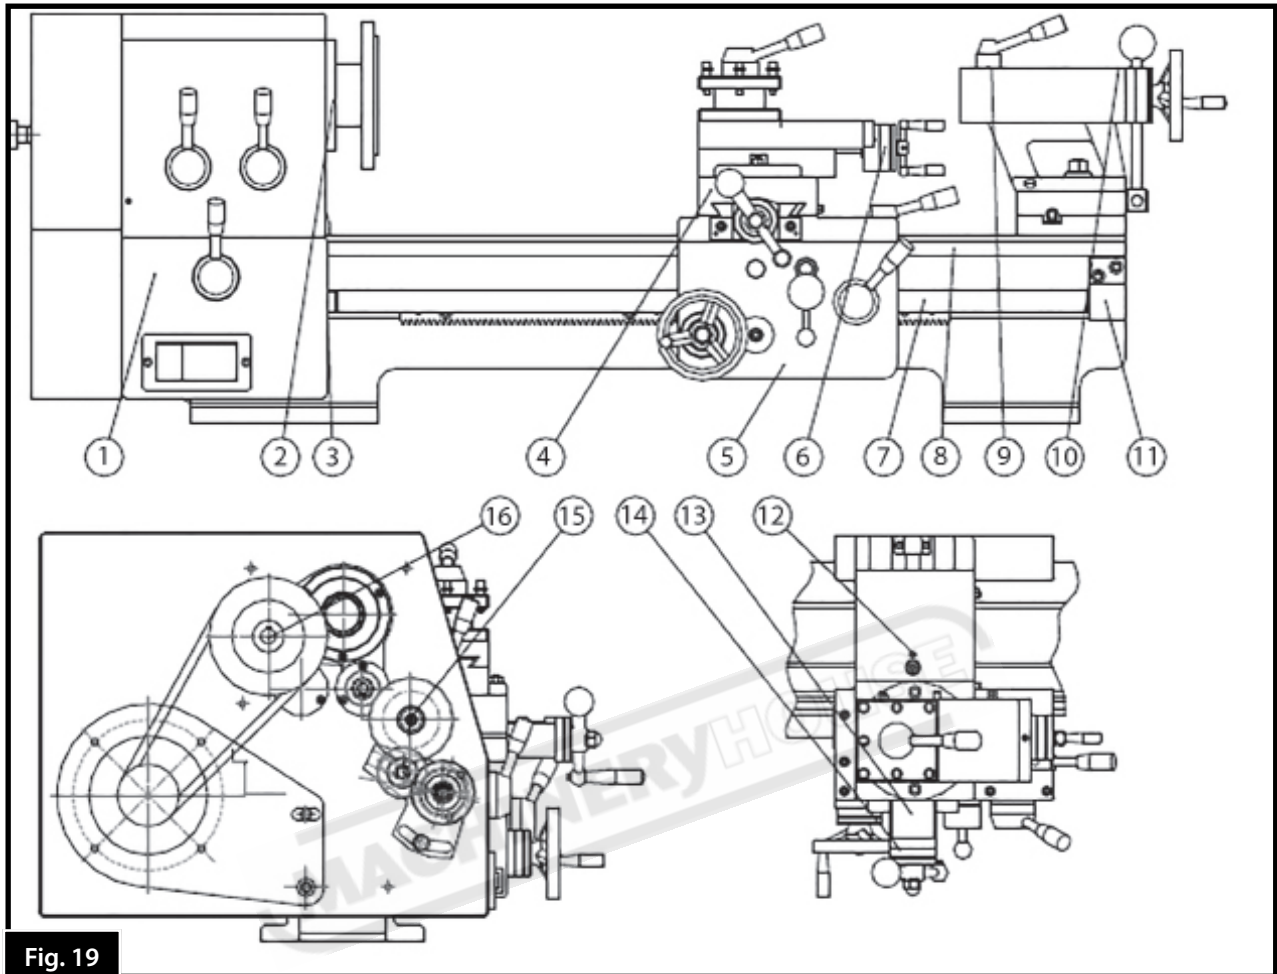

Fig. 19
- Recommend to use Grease #3 as listed in table of lubrication positions (Fig. 19)
- Recommend to use Oil #20 as listed in the table of lubrication positions (Fig. 19)